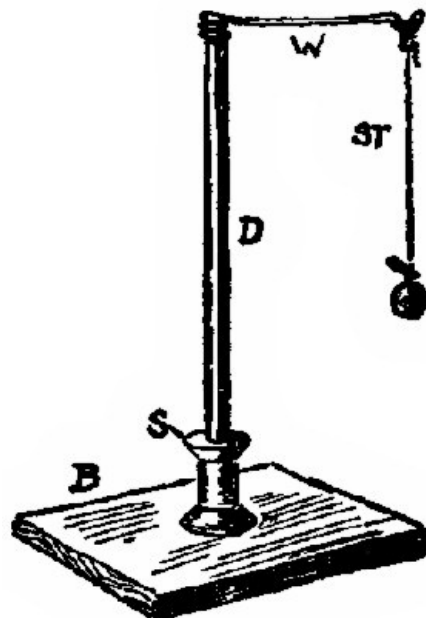
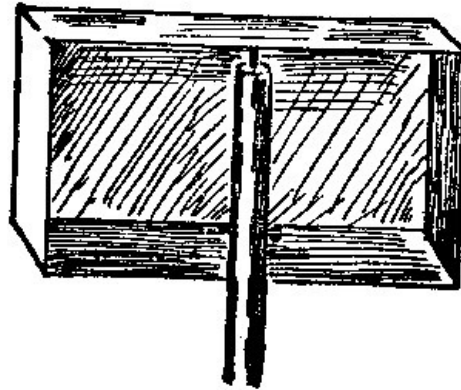

Fig. 108.
Fig. 112.
**240. Support for Electroscopes, etc.** Fig. 108. Glue or nail a spool, *S*, to a wooden base, *B*, measuring about 4 × 5 in. Wrap some paper around a 7 in. length of ¼ in. dowel, *D*, to make it fit the hole in *S*. Wind one end of a wire, *W*, around the top end of *D*. To the outer end of *W* tie a *silk* thread, *S T*, on the lower end of which may be tied a piece of pith or material to serve as an electroscope.
**244. Box-Cover Electroscope.** Fig. 112. A pasteboard box-cover, balanced upon a pin, makes a fairly good electroscope, although it is not nearly so sensitive as App. 138. The pin may be stuck in the upper end of the dowel, *D*, shown in Fig. 108.